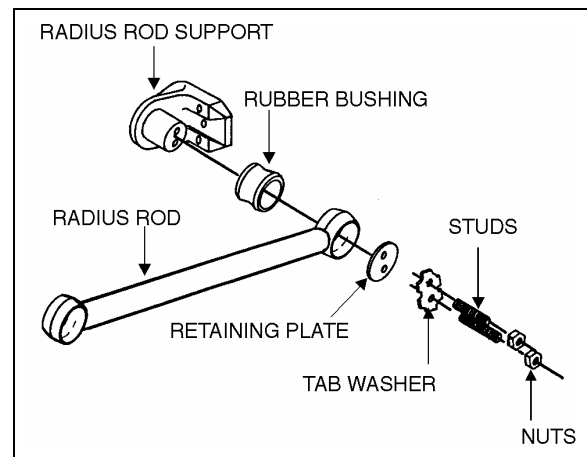

FIGURE 42: TYPICAL RADIUS ROD SETUP
1. Flatten the tab washer which secures the two retaining nuts (or bolts), then unscrew the nuts (or bolts) at each extremity of the radius rod (Fig. 42).